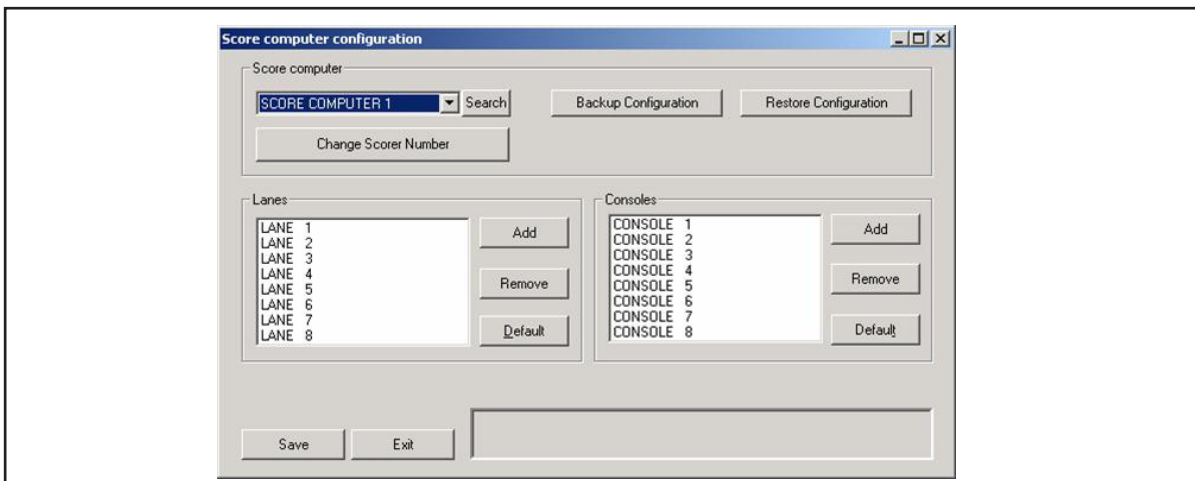

Figure 15. Scorer Configuration Screen
4. Select the appropriate SCORING COMPUTER from the drop-down list on the top-right of the window. *Refer to Figure 15.*
5. Under the lane column, double-click on the first lane that has bumpers installed, and assign the bumper type “Brunswick” to the lane. *Refer to Figure 15.*